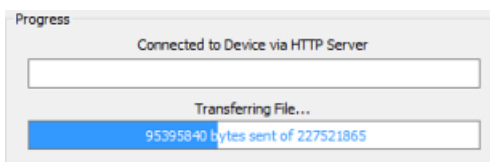

FIG. 160 NetLinX Studio - Send to NetLinX Device dialog (Progress bars indicating an active firmware file transfer)
7. Click **Send** to initiate the firmware file transfer. The progress of the transfer is indicated in the progress bars (FIG. 160):